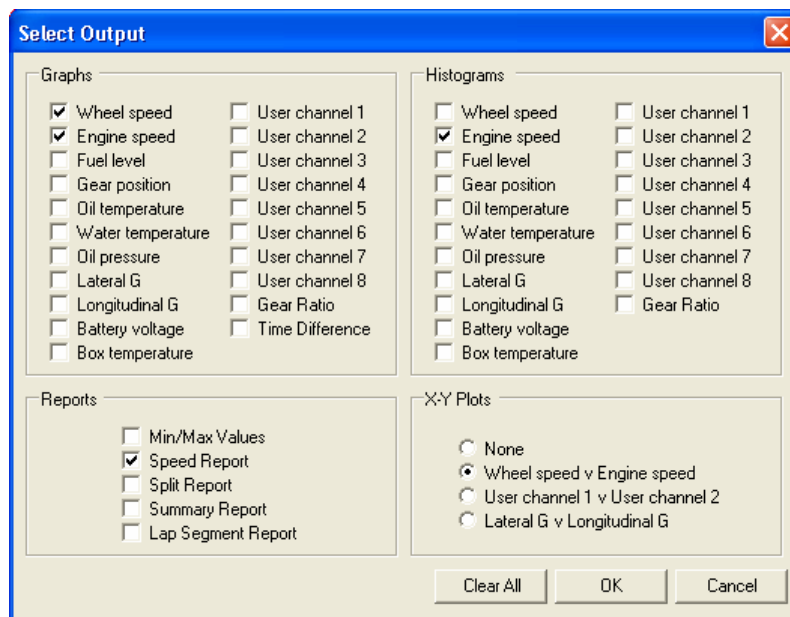

Figure 29 - Select Output Dialog
1. Select the **View** ➔ **Select Output** option from the main menu. The Select Output dialog (Figure 29) appears showing all the currently selected screen output items.